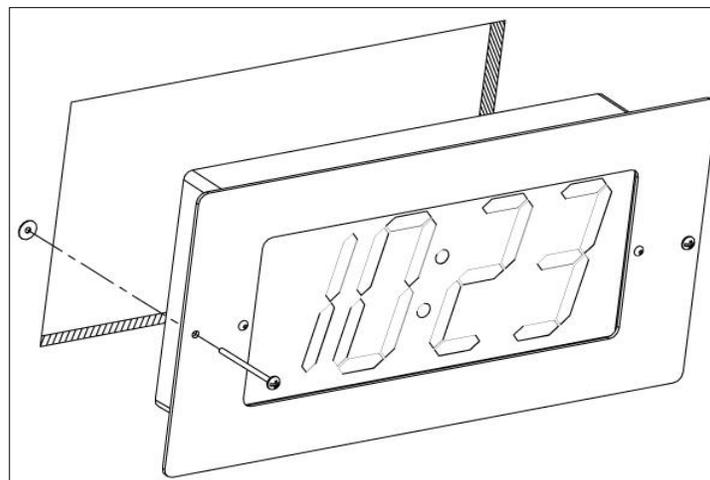

Figure 11: Clock With Flush/Recessed Mount Assembly
8. Place the clock with flush/recessed mount assembly in the hole and re-install the screws, as seen in Figure 11.